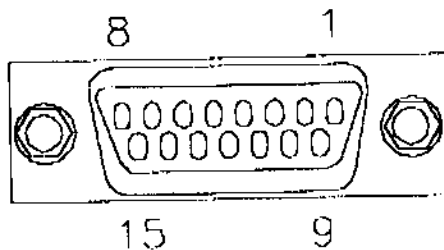
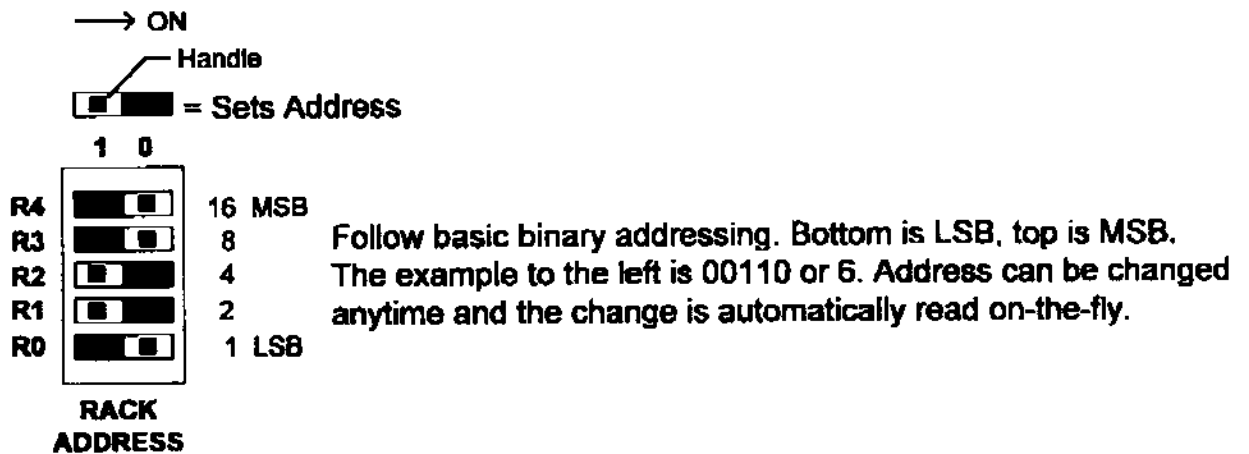

Figure 2-2. ALARMS Connector
Figure 2-4. RS-485 Subrack Addressing
5. Connect the dry-contact alarms cable (if RS-485 is not used) to the ALARMS 15-pin D-sub connector on rear of subrack. Refer to figure 2-2 and table 2-2 for definition of the 15-pin D-sub ALARMS connector.
7. Using the RACK ADDRESS switches, set R0 (LSB) through R4 (MSB) to correspond to the desired RS-485 bus address (see figure 2-4).
Amplifier alarms may be monitored through the dry contact ALARMS 15-pin female D-sub connector on the rear of the subrack. Refer to table 2-2 and figure 2-2 for pin definition of the ALARMS connector. See also table 2-4 for alarm attributes and figure 2-4 for RS-485 alarm conditions.
Subrack addressing may be set in accordance with figure 2-4.